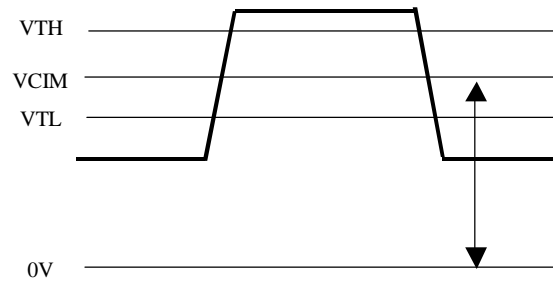

Figure 2 : LVDS Differential Voltage
3. Measurement of LVDS differential voltage is shown in Figure 2.